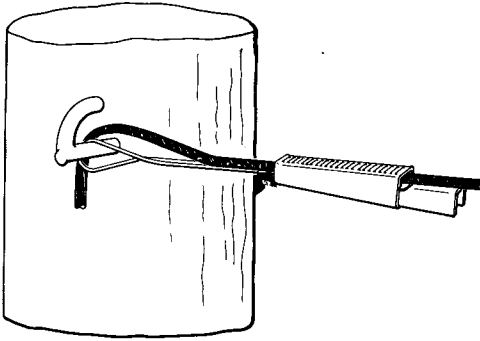

Fig. 7 — Completely Installed Drop Wire Clamp
- 2.07** A completely installed drop wire clamp is shown in Fig. 7.